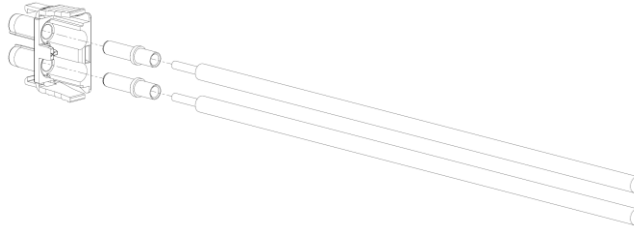
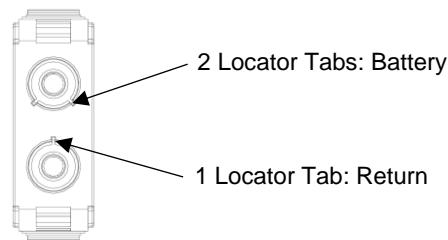

Fig. 2-16: Insert Crimped Terminals
Fig. 2-17: Connector Front View
53. Insert terminals into plug housing as shown in Fig. 2-16 and Fig. 2-17. The battery terminal goes in the position on the connector with 2 locator tabs and is marked “2”. The return terminal goes in the position on the connector with 1 locator tab and is marked “1”.